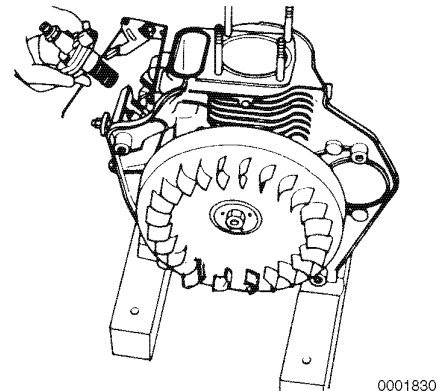

Figure 9-17
8. Remove the fuel injection pump (**Figure 9-17**).